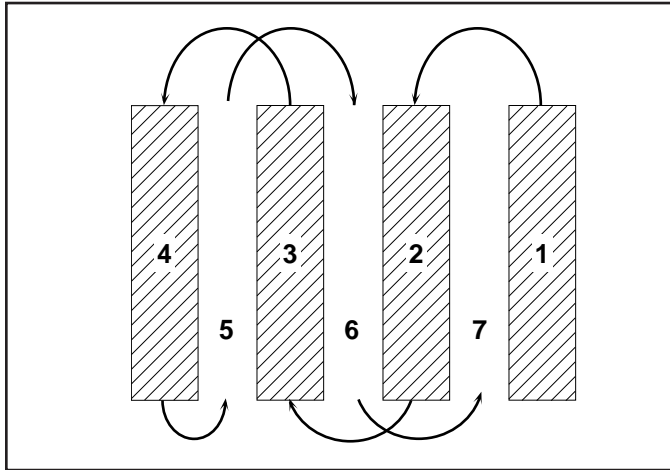

Fig. 14
TILLING HINTS (See Fig. 14)
- You will find tilling much easier if you leave a row untilled between passes. Then go back between tilled rows. (See Fig. 14) There are two reasons for doing this. First, wide turns are much easier to negotiate than about-faces. Second, the tiller won't be pulling itself, and you, toward the row next to it.